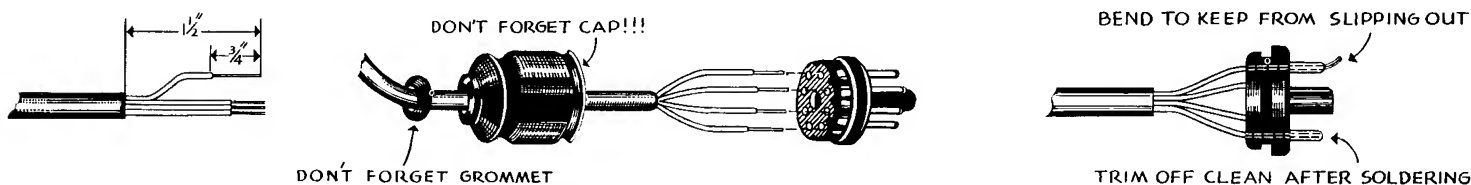

Figure 6
- () Connect a 1 K Ω resistor (brown-black-red) between lug C1 (NS) and pin 5 (S) on socket V3.
- () Connect the 15 K Ω 1 watt resistor (brown-green-orange) from pin 5 of the connector socket (S) to C2 (NS). Use sleeving on both leads and place the body of the resistor directly against the chassis below the .25 mfd. condenser.
- () Connect one of the matched pair of 47 K Ω 2 watt resistors (large yellow-purple-orange) between lug C2 (S) and pin 2 (NS) on socket V2.
- () Connect a .25 μ fd (large tubular) condenser between pin 2 (S) on socket V2 and lug C1 (S) (use sleeving). Again note that "outside foil," if marked, may be disregarded.
- () Connect the other 47 K Ω 2 watt resistor (large yellow-purple-orange) of the matched pair between lug D2 (S) and pin 5 (NS) on socket V2.
- () Connect a .25 μ fd condenser between pin 5 (S) on socket V2 and lug D1 (S) (use sleeving).
- () Connect a .01 μ fd 400 volt condenser between pin 5 (S) on socket V1 and pin 1 (S) on socket V2 (use sleeving).
- () Connect a .01 μ fd 400 volt condenser between pin 6 (S) on socket V1 and pin 4 (S) on socket V2 (use sleeving).
- () Connect a 1.8 K Ω resistor (brown-gray-red) between pin 4 (S) of socket V1 and terminal strip HH (NS) (use sleeving).
- () Connect the 510 μ fd mica condenser between terminal strip HH (S) and the ■ marked lug (S) on condenser H.
- () Install the octal plug on the end of the cable. Remove the overall insulation for about 1 1/2". Remove the insulation from each wire for about 3/4". Slip the plug cap on the cable with the grommet toward the chassis end. Arrange the wires in a circle and slip wire ① in the hole marked 1, wire ② in the hole marked 2, etc. Make sure the wire sticks out beyond the pin. Bend the wire over to keep it from slipping out. See Figure 6.